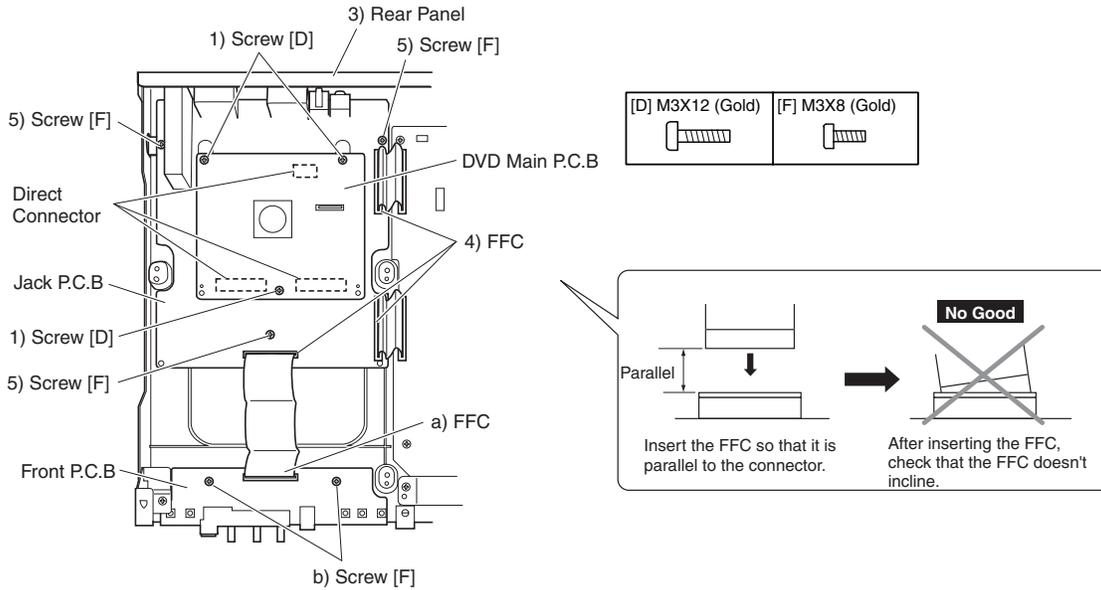

Fig. 4-2-5 DVD Main P.C.B, Jack P.C.B and Front P.C.B
#### (5) DVD Main P.C.B and Jack P.C.B (Fig. 4-2-5)